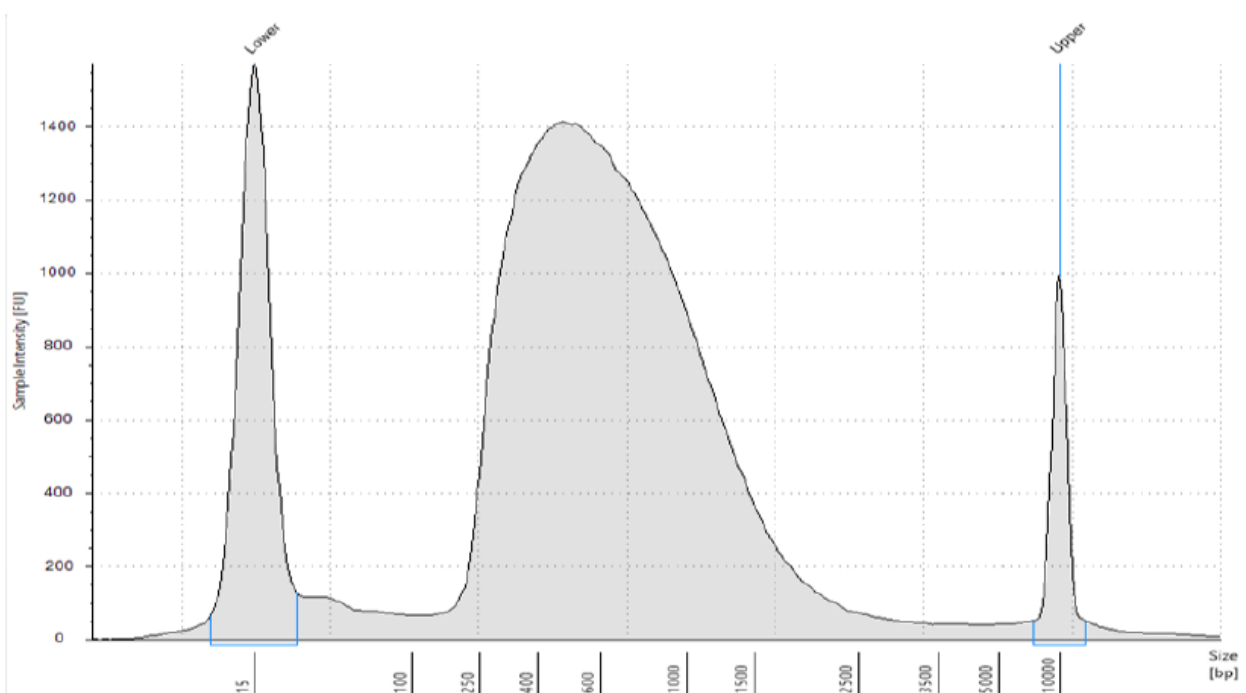

Figure 1. An example of cleaned up library profile from a TapeStation High Sensitivity D5000 Screen Tape assay.
3. A good-sized library should have most library fragments under 1000 bp (Figure 1).